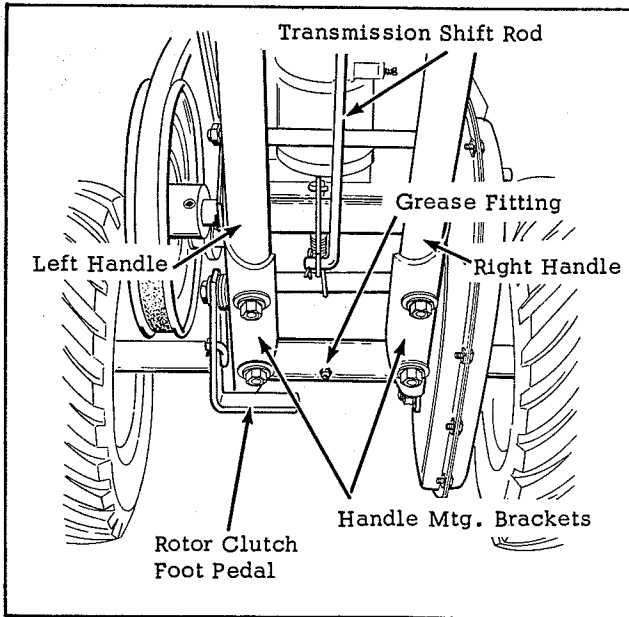

Fig. 1
1. Fasten the right and left handles to the mounting brackets as shown in Figure 1. Use hex capscrews, flat washers, lockwashers, and hex nuts and tighten securely in place.
The 23" Rotary Snow Plow is equipped with 4 grease fittings that require occasional lubrication with a general purpose automotive grease. The location of these fittings is shown in Figures 1, 3, & 7.